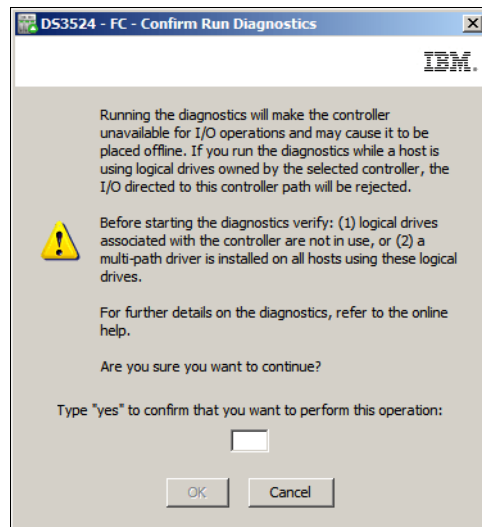

Figure 14-122 Confirm Run Diagnostics
3. After you have selected the tests to run, click the **Run** button. You will be asked to confirm that you want to run the tests as shown in Figure 14-122. Read the important information, then type yes in the text box and click **OK** to continue.